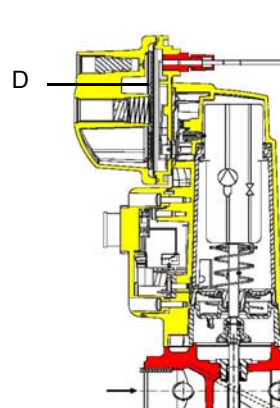

Fig. 19
**Caution:** the SKP2 diaphragm D must be vertical (see Fig. 19).